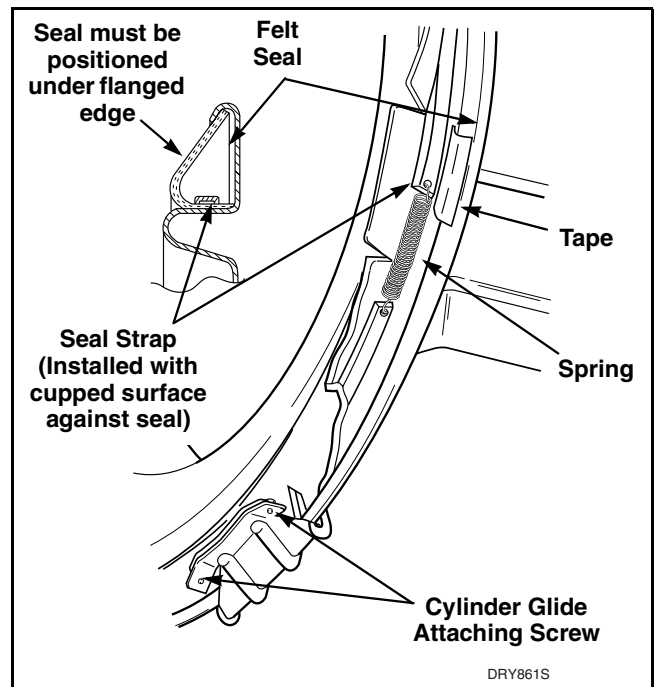

Figure 25
- Remove cylinder glides. Refer to *Figure 25*.
- Unhook spring from seal strap. Refer to *Figure 25*.